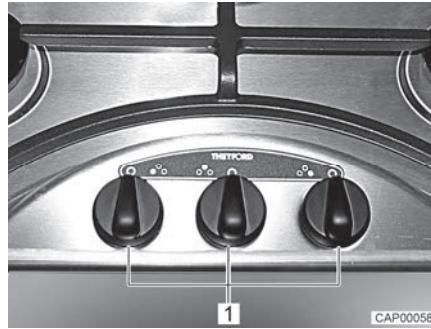

Fig. 99 Operating controls for gas cooker
- Turn the control knob (Fig. 99, 1) on the burner you wish to use to the ignition position (large flame).